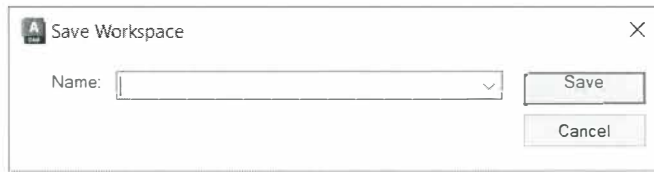

Figure 1–3
4. In the Save Workspace dialog box, type a name for the new workspace and click **Save**, as shown in Figure 1–3.